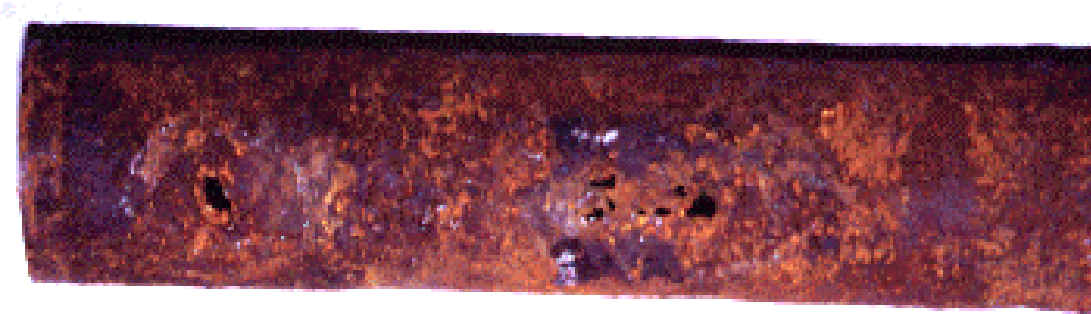

Figure VIII-1 Bare Pipe - not under cathodic protection
**Corrosion** - The deterioration of metal pipe. Corrosion is caused by a reaction between the metallic pipe and its surroundings. As a result, the pipe deteriorates and may eventually leak. Although corrosion cannot be eliminated, it can be substantially reduced with cathodic protection. (See Figure VIII-1.)